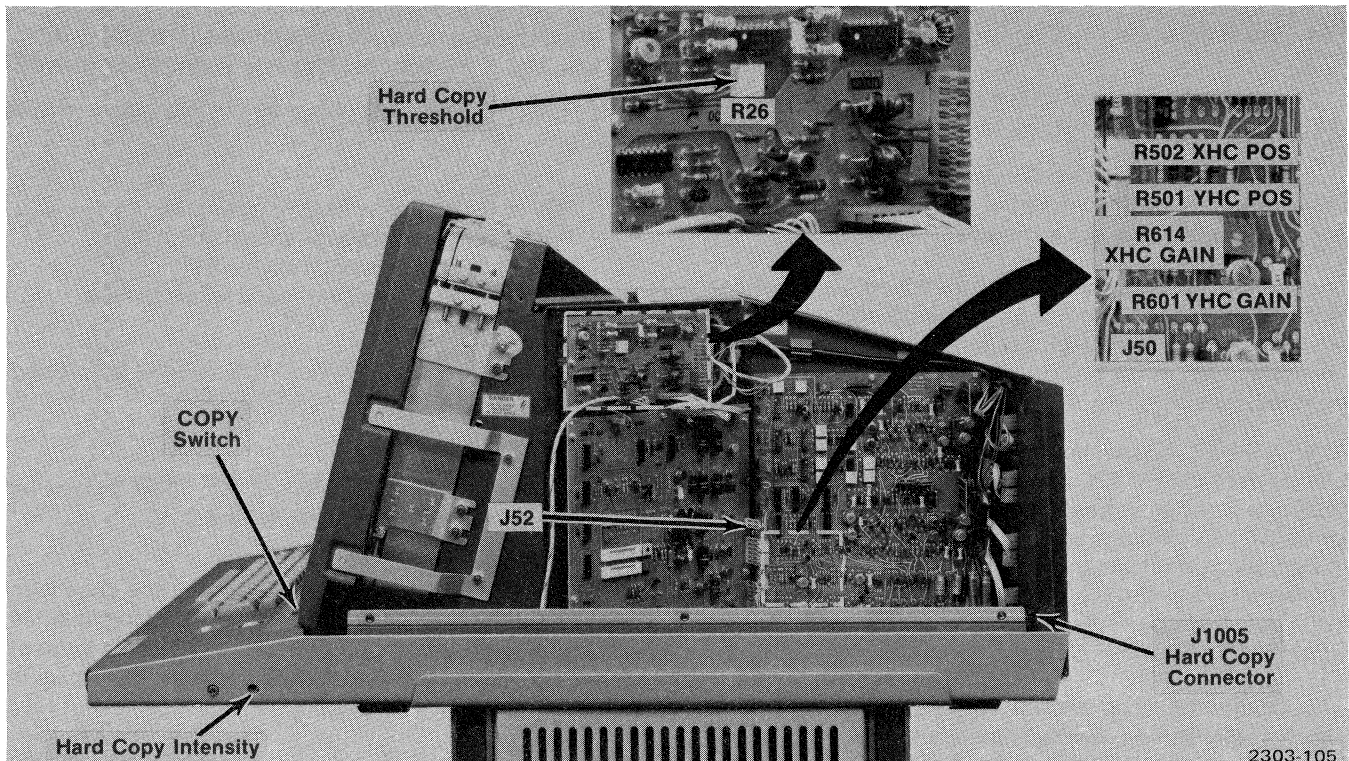

Fig. 4-26. Hard Copy Adjustments.
a. Refer to Fig. 4-26 for adjustment locations.
f. Set the Hard Copy Intensity adjustment (Fig. 4-26) to center range. Press the COPY switch to obtain a vertical scan bar. Adjust R436, HC COARSE, on the High Voltage board, for a scan bar as bright as possible without storing at any point across the screen. Press the COPY switch and use the Hard Copy Intensity (side panel adjustment) as a fine adjustment. Press COPY switch and repeat until desired results are obtained.
e. Write a page of characters on the screen and press the COPY switch. The display should be copied on the paper from the Hard Copy Unit. If there is information drop-out, the Hard Copy Threshold voltage may be set too high. The temperature of the developing plate in the Hard Copy Unit also affects the intensity of the hard copy. If characters at the margins are missing, the XHC GAIN and YHC GAIN adjustments are set too low (see Fig. 4-26).